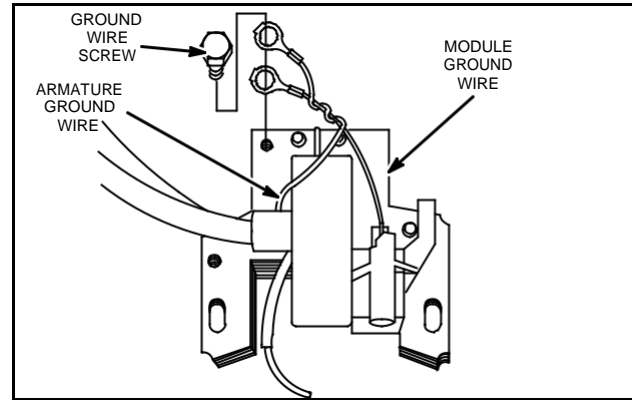

Fig. 11 – Attach Ground Wires
5. Attach ground wires to armature lamination with ground screw, Fig. 11.